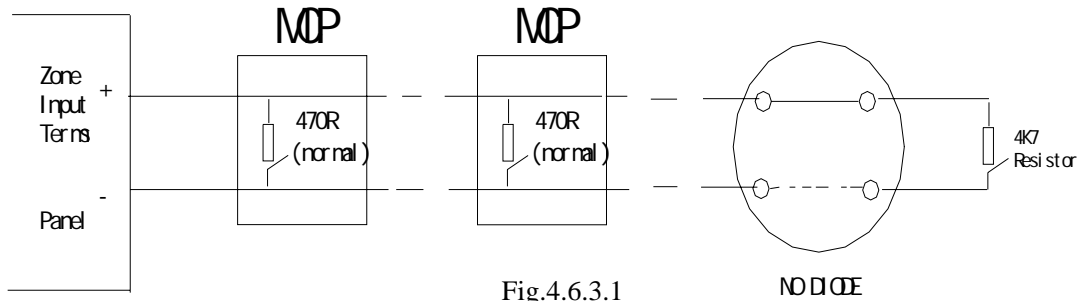

Fig.4.6.3.1
- 4.6.3.1 Method 1: In a zone circuit, connect all the manual call points before the detectors and a 4.7K resistor to the last device of the zone circuit. This arrangement is shown as Fig.4.6.3.1.
- 4.6.3.2 Method 2: In a zone circuit, connect the manual call points anywhere, connect an Active End of Line (AEOL) to the last device of this zone circuit and a diodes in all detector bases. This arrangement is shown as Fig.4.6.3.2.